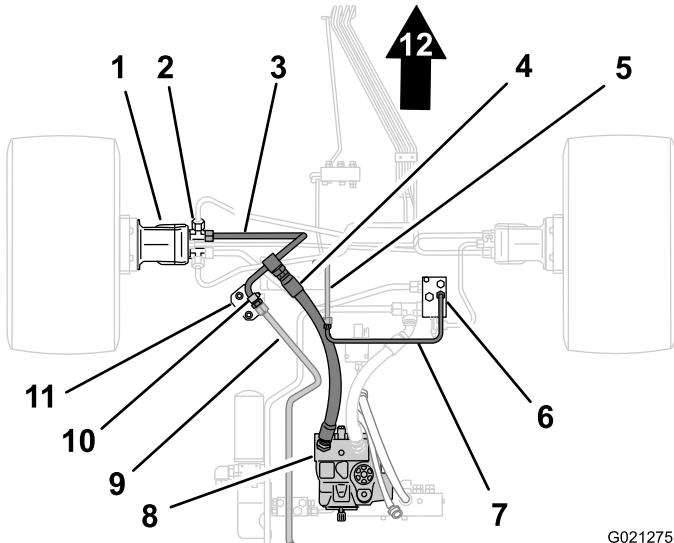
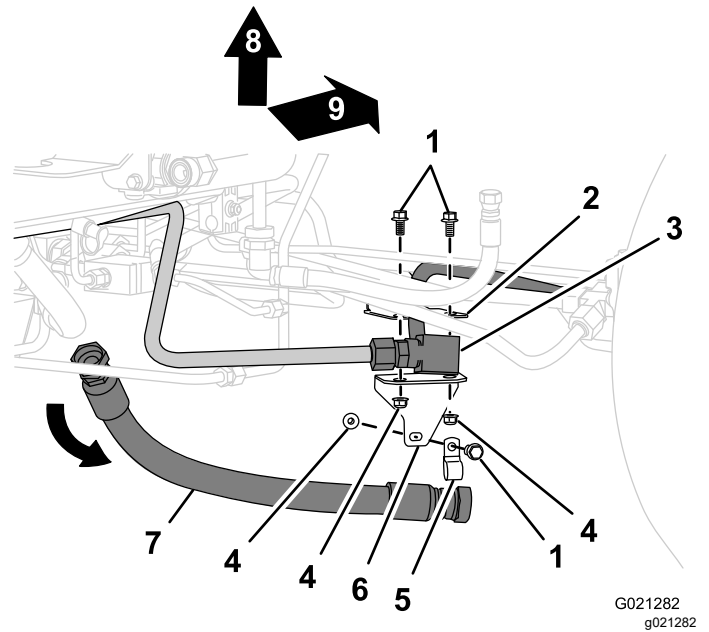

Figure 2
Figure 3
1. Align a drain pan below the forward end of the pressure hose (Figure 2).
2. Remove the forward end of the pressure hose from the fitting in the divider tube, and allow the hydraulic fluid to drain from the hose and tube (Figure 3).
3. Remove the rear end of the pressure hose from the fitting in the hydraulic pump, and remove the pressure hose; refer to Figure 2 and Figure 3.
2. Remove the tube nut for the cross tube from the fitting in the rear-traction manifold (Figure 2 or Figure 3).
3. Remove the tube nut for the filter tube from the fitting in the cross tube, and remove the cross tube (Figure 2 or Figure 3).
1. Remove the bolt and the nut that secure the divider tube to the tube bracket, and remove the clamp (Figure 3 or Figure 2).
2. Remove the 2 bolts and the 2 nuts that secure the tube bracket to the chassis bracket (Figure 3 or Figure 2).
2. Remove the tube nut of the divider tube from the T-fitting in the front-left traction motor, and remove the tube from the machine (Figure 2 or Figure 3).